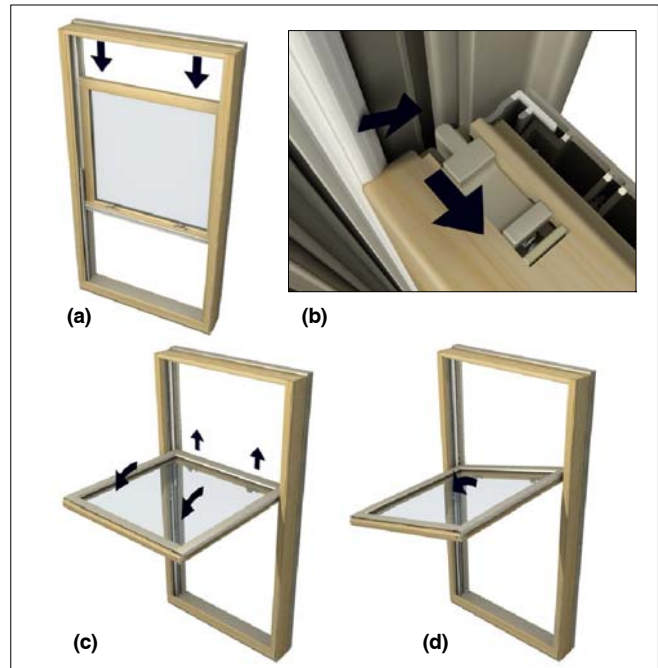

Figure 6
- Lower the top sash a minimum of 4" (102) and with a person at each side of the unit release the top tilt latches. Ease top of sash towards you to a horizontal position. Lift both sides of the sash upward 2"-3" (51-76) (separating the pivot pins from the clutches). Rotate the sash counterclockwise until pins clear the jambs and remove the sash. See figure 6.